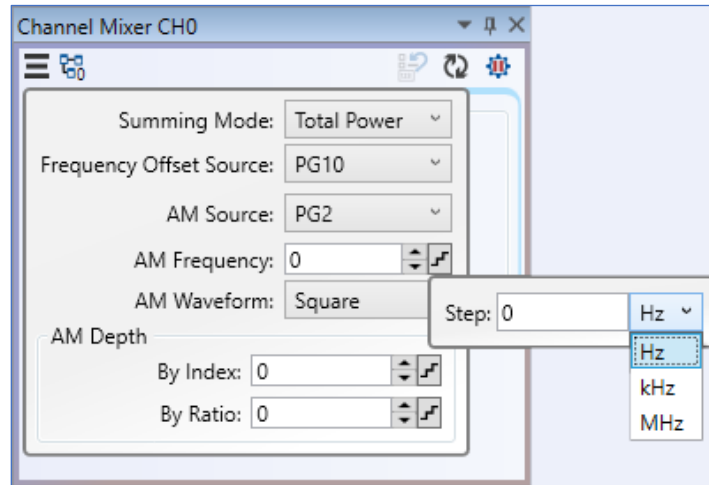

Figure 196: AM Frequency, Step Drop Down Menu
- AM Frequency – Sets the frequency of the amplitude modulation, in Hz, as shown in Figure 196